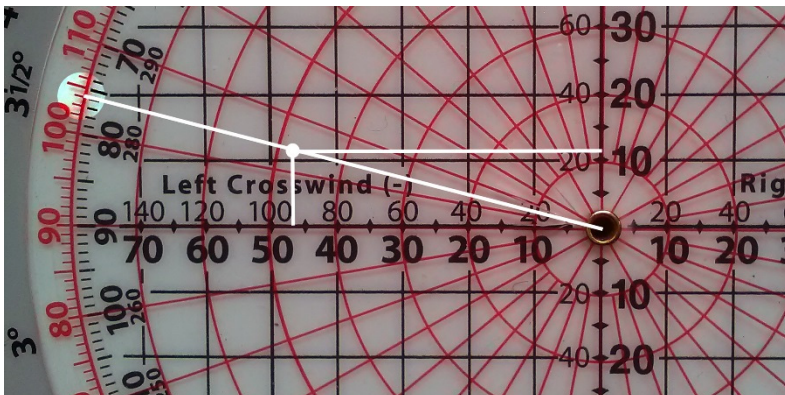

Figure 24.
2. Set 180° at the True Course (TC) index.
4. The crab angle (20) is fairly high; therefore, use “effective” true airspeed. Find 20 on the effective scale and read directly above (132).
5. Determine the difference between effective true airspeed and actual ground speed, which will be the headwind or tailwind component you will find on the computer. In this example,  $132 \text{ (ETAS)} - 120 \text{ (GS)} = 12 \text{ headwind}$ .
8. Find the point of intersection of the two lines to determine the wind dot. Its position indicates we have an actual wind from 104 true at 48 knots (see Figure 24).